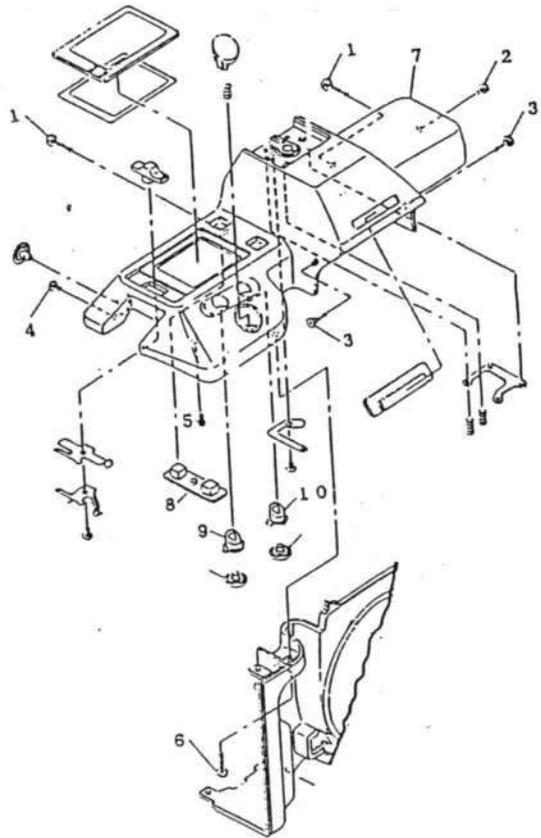

Fig.3
(2) Take off eight SCREWS (No.1,2,3) and remove the BOTTOM COVER(No.4).
3. Top cover assy (Fig.3)